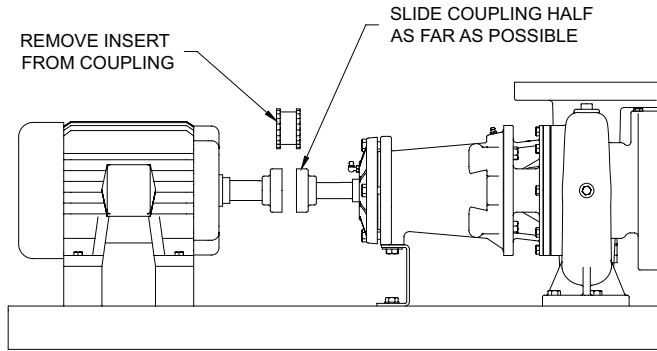

Figure 41
6. For Pentair Fairbanks Nijhuis 1620 pumps, loosen the set screws in both coupling halves and slide each half back as far as possible on its shaft. Then, remove the coupling insert. See Figure 41 shown on next page.